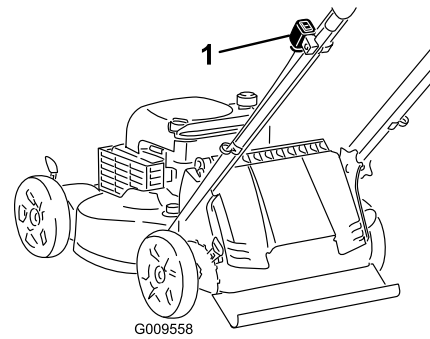

Figure 11
1. If the ignition switch on your mower (Figure 11) is a toggle switch (with both an “I” and a “Stop”), push the switch to the (“I”) position. Otherwise, go to step 2.